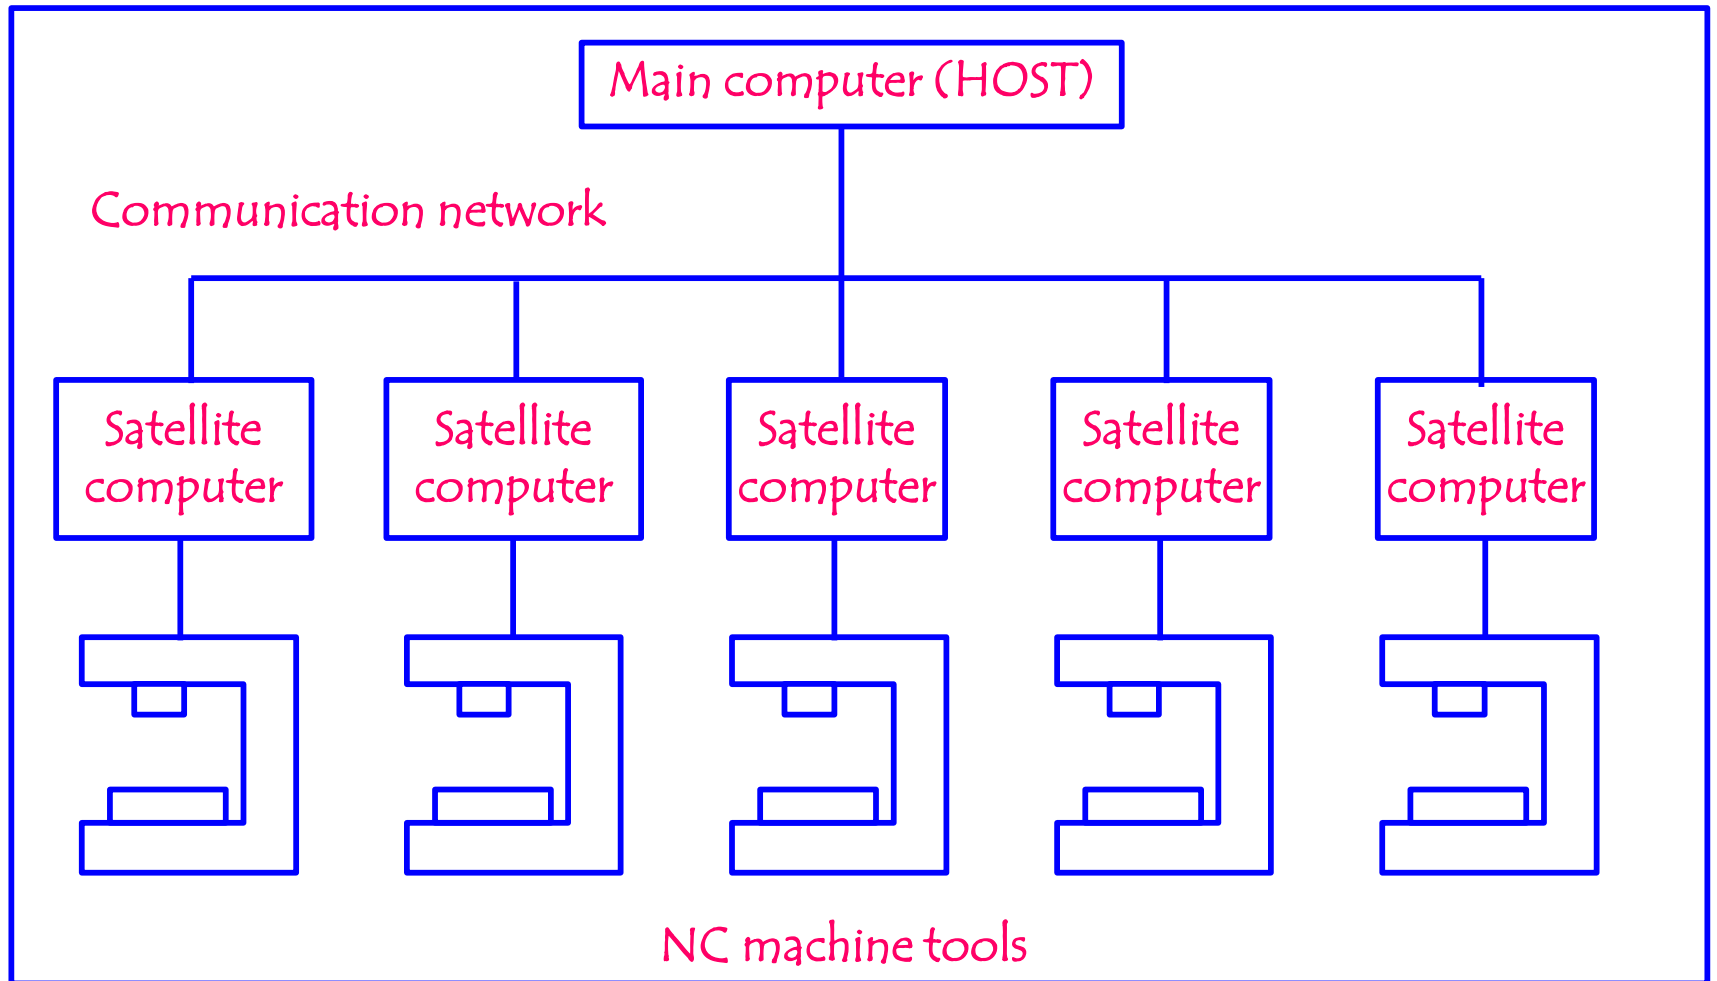

Figure 5: Distributed NC configuration, using satellite computers.
- In some distributed NC systems, a satellite computer local to each NC machine can be inserted to increase the speed of the entire system, to handle large computer files, and to expand the number of machine tools used. This configuration is illustrated in Figure 5.